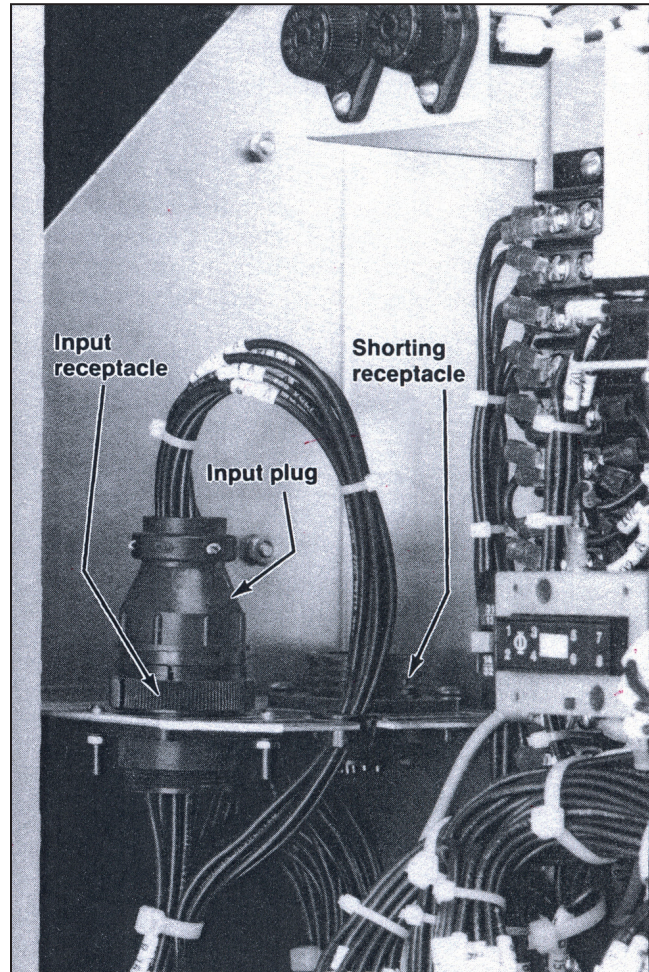

Figure 9. Connecting the input plug to the input receptacle.
- STEP 14.** Remove the input plug from the shorting receptacle and immediately transfer it to the input receptacle. See Figure 9.